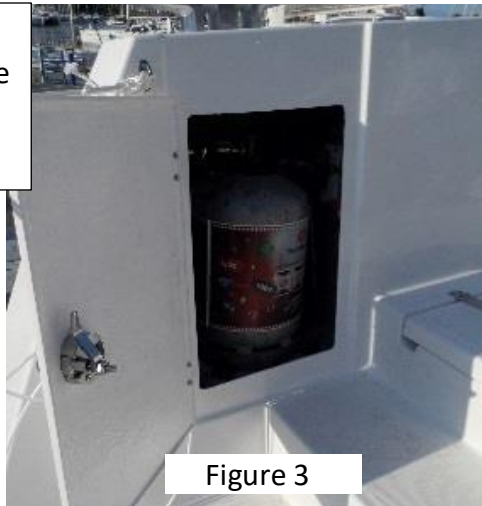

Figure 3
- The gas bottle must always be placed in the waterproof and ventilated housing designed for this purpose (Figure 3). The same goes for spare or empty bottles. No other equipment should be stored in this area.